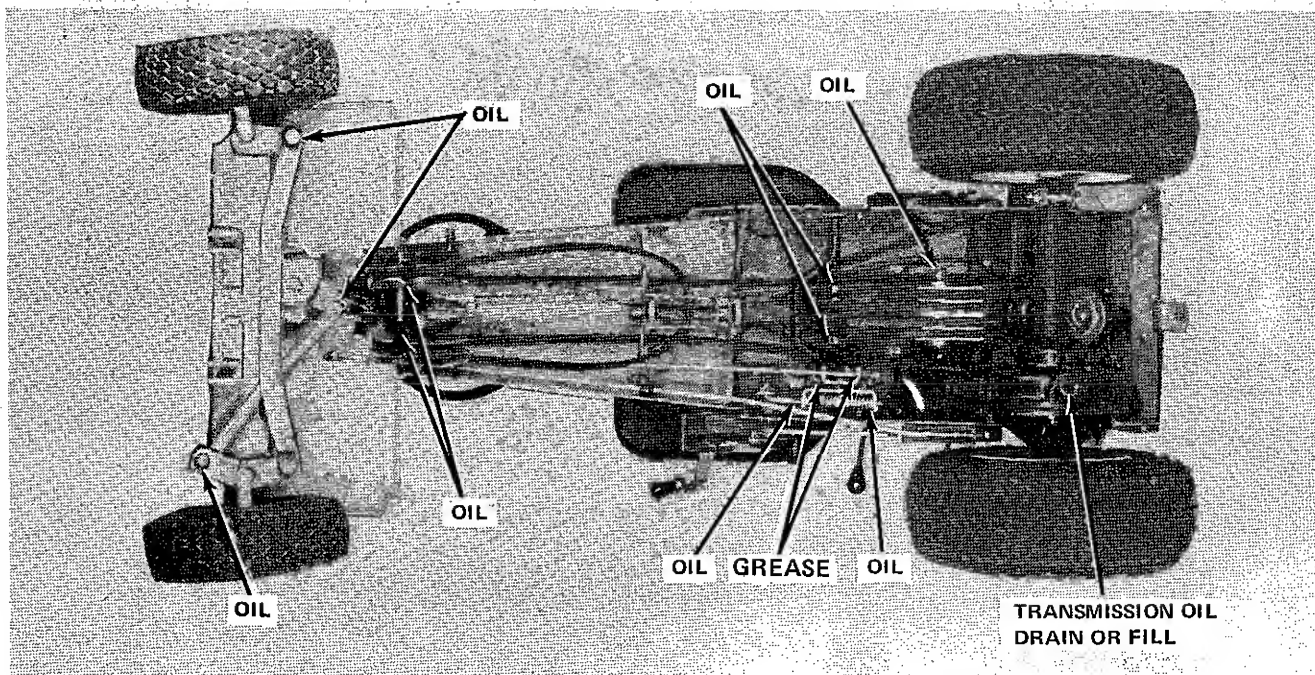
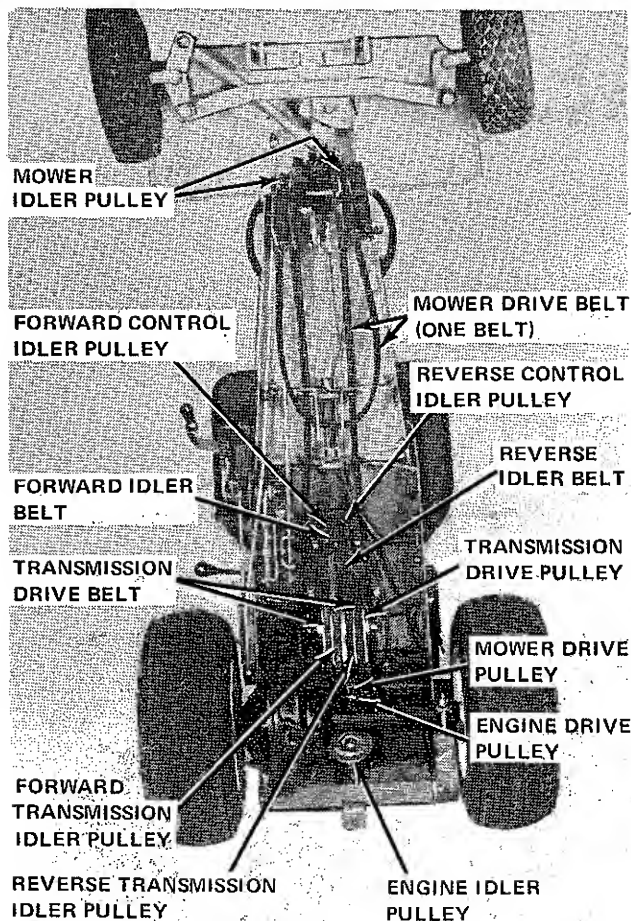
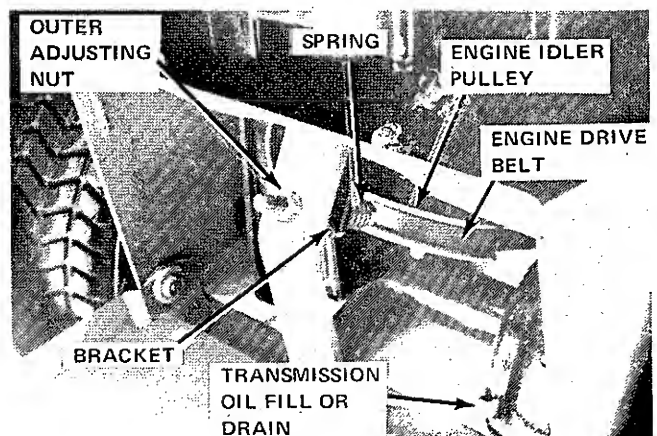

Figure 6-4. Bottom Lubrication Points
Figure 6-10. Belt and Pulley Location
Figure 6-12. Engine Idler Pulley and Drive Belt
2. Apply light engine oil every 10 operating hours to all points specified in Figures 6-2, 6-3, and 6-4 except tie rod and draglink pivots. Apply 10W-30 or heavier motor oil to tie rod and draglink pivots (Figure 6-4).
To check level when vehicle on all four wheels, remove fill and drain plug (Figure 6-12). To check level when vehicle upright, remove fill and drain plug (Figure 6-4).
5. Place mower end of drive belt in bracket under frame. (Figure 6-4).
Refer to Figure 6-10 for location of pulleys and belts.
3. Open battery cover at rear of vehicle. Back off the outer adjusting nut (Figure 6-12) far enough that the tension on the engine drive belt is reduced to the point where the belt may be removed from the engine crankshaft pulley. It may be necessary to completely remove the outer adjusting nut to accomplish this.
1. Open battery cover at rear of vehicle (Figure 6-12).
2. Push engine idler pulley (Figure 6-12) in against spring until engine drive belt can be slid from pulley. If spring does not allow sufficient compression to allow belt removal, loosen outer adjusting nut a few turns.
3. Disengage engine drive belt from engine drive pulley (Figure 6-10) and remove from battery cover opening.
4. Working through battery cover opening, install new transmission drive belt (Figure 6-10) on engine drive pulley. Carefully work belt over outside transmission drive pulleys and depress engine idler pulley (Figure 6-12) enough to slip new engine drive belt in place. Adjust drive belt as instructed in paragraph 5-7 of this manual.